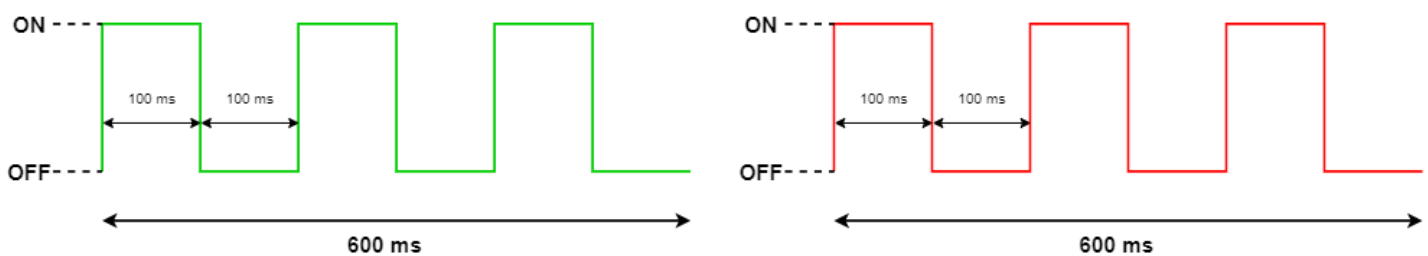

Figure 3-1: The GREEN POST Pass (left) and RED POST Failure (right) LED Patterns
- a. If the POST passes, **GREEN** is toggled ON and OFF 3 times: every 100 ms for 0.6 s, as shown in Figure 3-1. In this case, the LED pattern proceeds to step 4.
- b. If the POST fails, **RED** is toggled ON and OFF 3 times: every 100 ms for 0.6 s, as shown in Figure 3-1. In this case, the device restarts and the LED pattern begins again at step 1 after approximately 4 s.